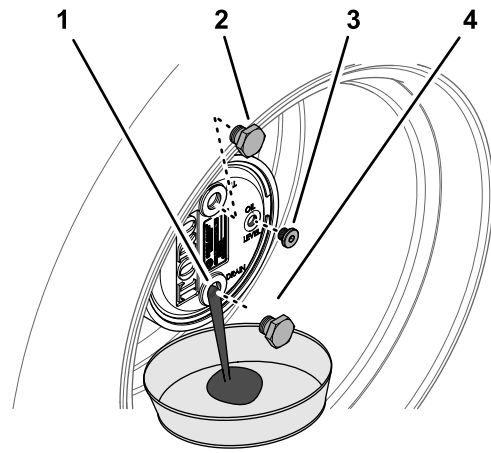

Figure 68
2. Remove the fill plug at the 12 o'clock position and the check plug at the 3 o'clock position (Figure 68).
3. Place a drain pan under the planetary hub, remove the drain plug at the 6 o'clock position, and allow the oil to fully drain (Figure 68).
5. Install the drain plug into the drain hole of the planetary housing (Figure 68).